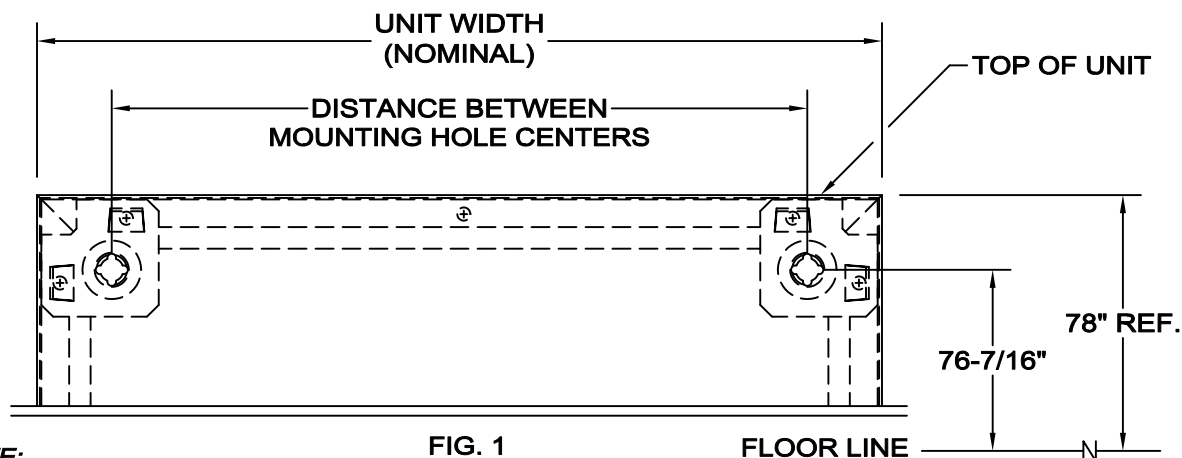

FIG. 1
1. SCRIBE A LEVEL LINE ON THE WALL AT 76-7/16" (FIG. 1).